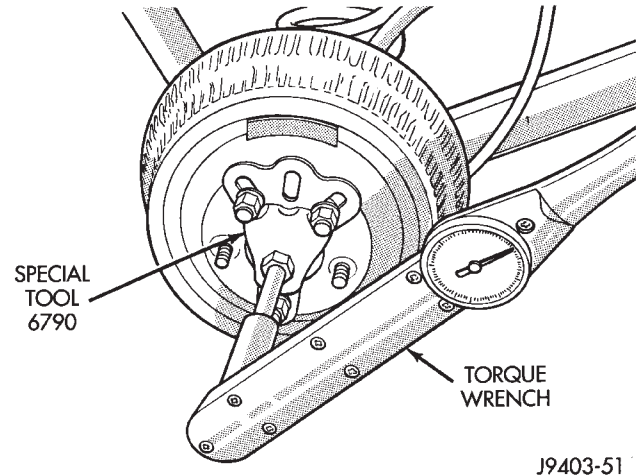

Fig. 4 Trac-loc Test
- (1) Engine off, transmission in neutral, and parking brake off.
- (2) Place blocks in front and rear of both front wheels.
- (3) Raise one rear wheel until it is completely off the ground.
- (4) Remove wheel and bolt Special Tool 6790 to studs.
- (5) Use torque wrench on special tool to rotate wheel and read rotating torque (Fig. 4).
- (6) If rotating torque is less than 22 N·m (30 ft. lbs.) or more than 271 N·m (200 ft. lbs.) on either wheel the unit should be service.